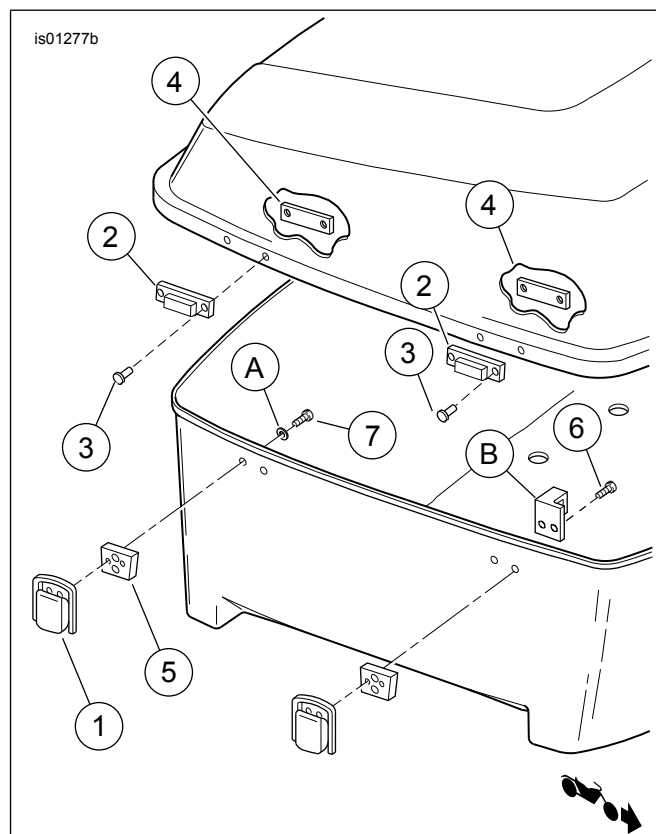

Figure 1. Service Parts: Black Tour-Pak Latch Kit
See Figure 1 and Table 1.
1. See Figure 1. Starting with rear latch, use a 5/32 in (4 mm) bit to drill the flared, inside ends off the rivets securing the catch (2) and backing plate (4). Remove and discard the catch, backing plate and rivets.
2. Place the new catch (2) and backing plate (4) in position and install the rivets (3) with the rivet tool. See the service manual for proper rivet tool operation.
3. Remove the stock screws (7), washers (A), spacer (5) and latch assembly (1). Save washers but discard the latch, screws and spacer.
4. Place a washer onto the threads of new rear latch screw (7). Place the new latch assembly (1) and spacer (5) in position (with open side of spacer toward Tour-Pak) and install with the screws and washers. Tighten to 2–3 N·m (20–25 in-lbs).